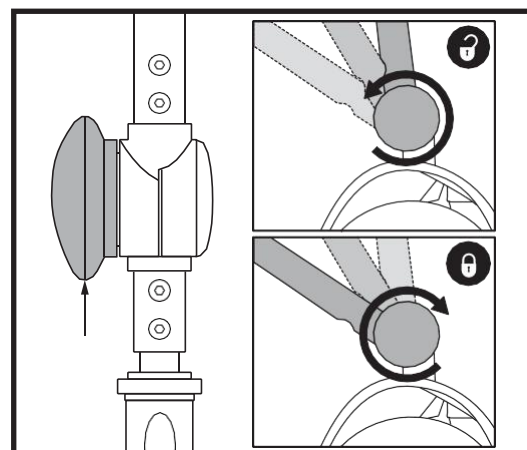

Figure 23. Tiller Adjustment Knob
### TILLER ANGLE ADJUSTMENT (See figure 23)
1. With the seat and battery pack removed (see Disassembly Procedures on previous page), lower the tiller and tighten the tiller adjustment knob. See figure 23.
3. Raise the tiller and fully tighten the tiller adjustment knob. See figure 23.